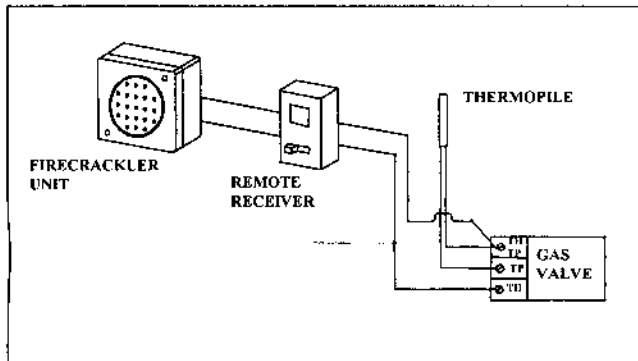

Fig.1
1. Wiring a millivolt gas valve (Fig.1)